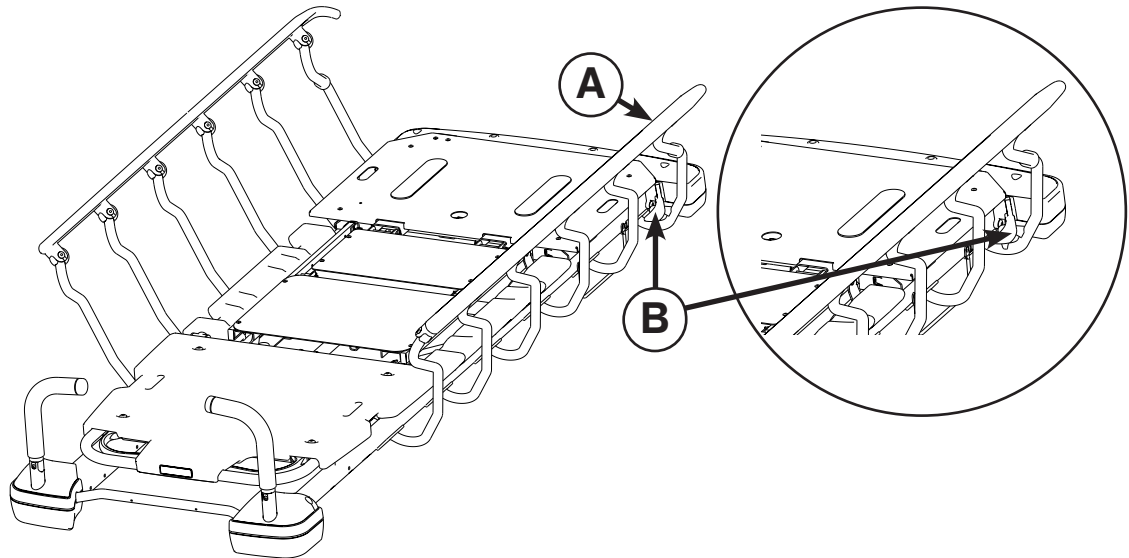

Figure 14: Siderails
To raise the siderails, pull up on the siderail (A) and raise it to the highest position until the latch (B) engages as shown in Figure 14.
To lower the siderails, pull up on the latch (B) and guide the siderail to the lowest position as shown in Figure 14. The latches (B) are colored yellow for easy identification.